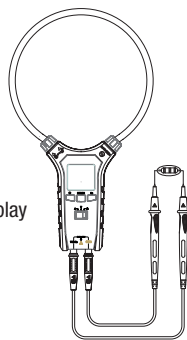

Figure 10
3. Connect the test leads to the resistance to be tested (Figure 10) and the meter will automatically select the range. The main display will show the resistance value.